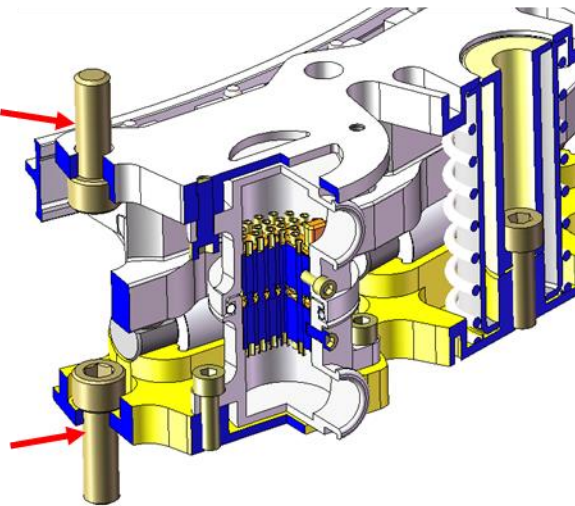

Figure 9-2: Fasteners and torques for adjoining structures
9.1.8	Place the Lower Ring on the adjoining structure. Use 3x FLH Alignment Screws or 3x Gauge Pins to ensure concentricity between Lower Ring and adjoining structure. Insert fasteners through remaining mounting holes. Tighten fasteners until hand tight. Replace alignment features with fasteners and tighten until hand tight. See Figure 9-2 and Figure 9-3.
9.1.9	Torque all fasteners on the Lower Ring 115-125 in·lb per Figure 9-2. Higher torque is allowable for high line-loading. See note 2.
9.1.10	Place the Upper Ring on the adjoining structure. Use 3x FLH Alignment Screws or 3x Gauge Pins to ensure concentricity between Upper Ring and adjoining structure. Insert fasteners through remaining mounting holes. Tighten fasteners until hand tight. Replace alignment features with fasteners and tighten until hand tight. See Figure 9-2 and Figure 9-3.
9.1.11	Torque all fasteners on the Upper Ring 115-125 in·lb per Figure 9-2. Higher torque is allowable for high line-loading. See note 2.